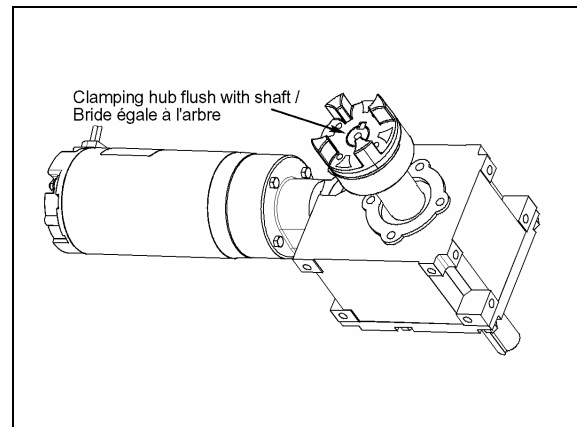

FIGURE 7
- a. For both gearbox shafts, slide a clamping hub flush with the gearbox shaft extremity (figure 7).